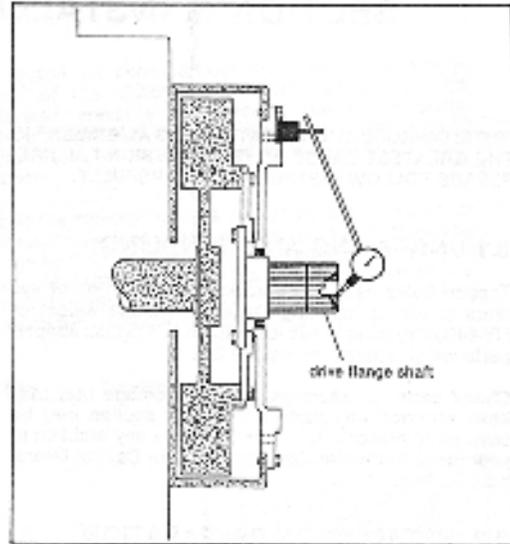

Figure 6. Dial Indicating Drive Flange Shaft.
11. Dial indicate drive flange on chamfer as shown in fig. 6. Record reading. Total indicator reading must not exceed .007 in.